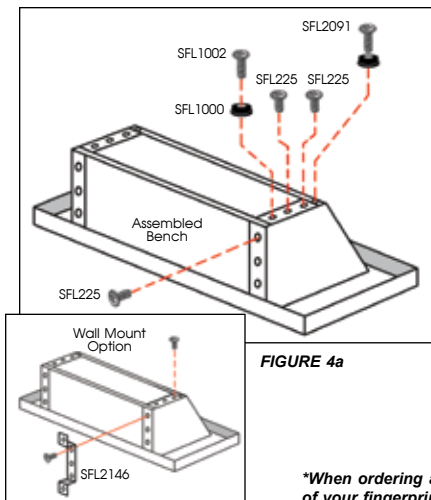

FIGURE 4a
- 4a. With the unit upside down, secure the end panels to the back with six 6-32 x 1/4" pan head screws. Secure the end panels to the bottom with four 6-32 x 5/8" pan head screws. Attach the rear feet with two 6-32 x 5/8" pan head screws. Attach the front feet with two #6 x 5/8" sheet metal screws. The unit is now ready for use (Fig. 4a). **NOTE:** *Optional wall mount configuration also shown.*